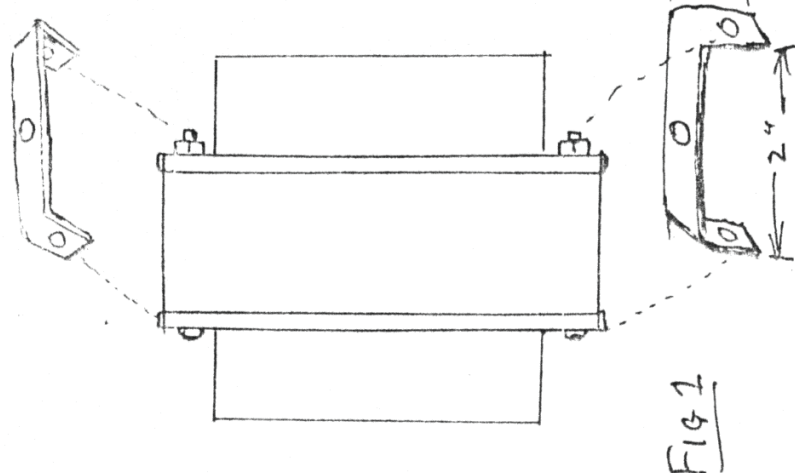

FIG 1
- 25.** Mount Stancore P-8605 48volt transformer as shown in the drawings Fig. 1 thru Fig. 6.
1. MAKE 2 BRACKETS TO FIT TOP OF POWER TRANSFORMER AS SHOWN, IN FIG 1 (USE ALUMINUM STRIP .090 THICK)